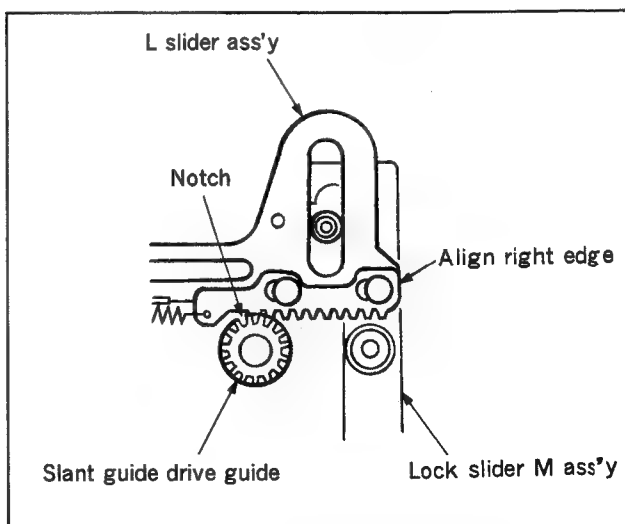

Fig. 4-12-3 L slider ass'y phase adjustment
3. L slider ass'y phase adjustment (Fig. 4-12-3)
4. S reel table ass'y removal (Fig. 4-12-3)